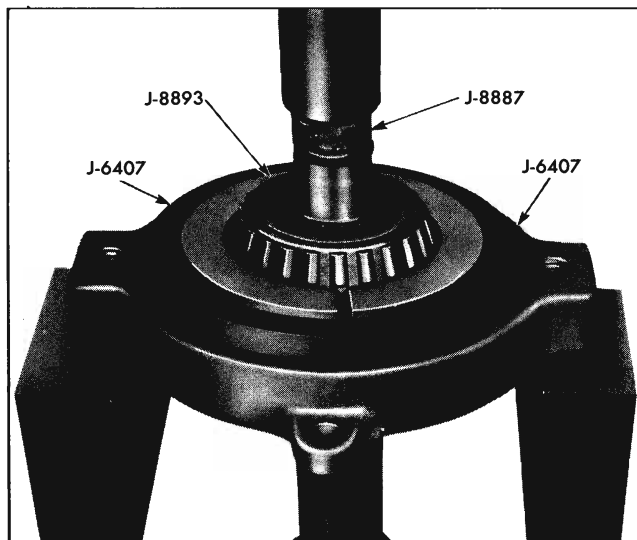

Fig. 4-38 Removing Rear Pinion Bearing
4. Press off rear pinion bearing using tool J-8893 in J-6407 holder. Press on pinion shaft using J-8901 synchro-mesh, use J-8887 (Fig. 4-38) on automatic.